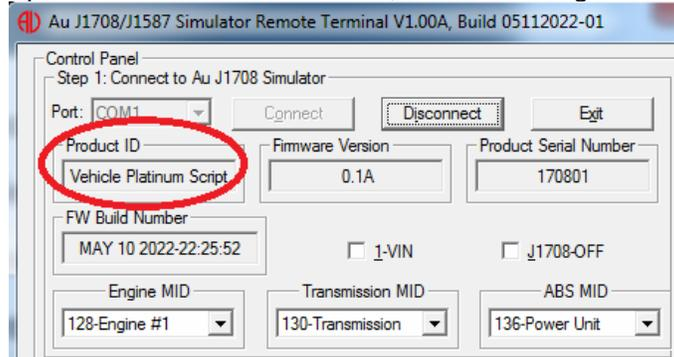

Figure 6-13
- 7. When it is updated successfully, a beep will be heard. About J1708 Simulator window will close automatically, and the Product ID (Edition of J1708/J1587 Simulator) will update to the new edition (Vehicle Platinum Script Edition in this demonstration, as shown in Figure 6-13).